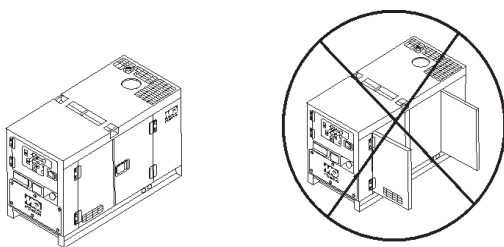

Figure 38. Engine Enclosure Doors
- Close all engine enclosure doors (Figure 38).